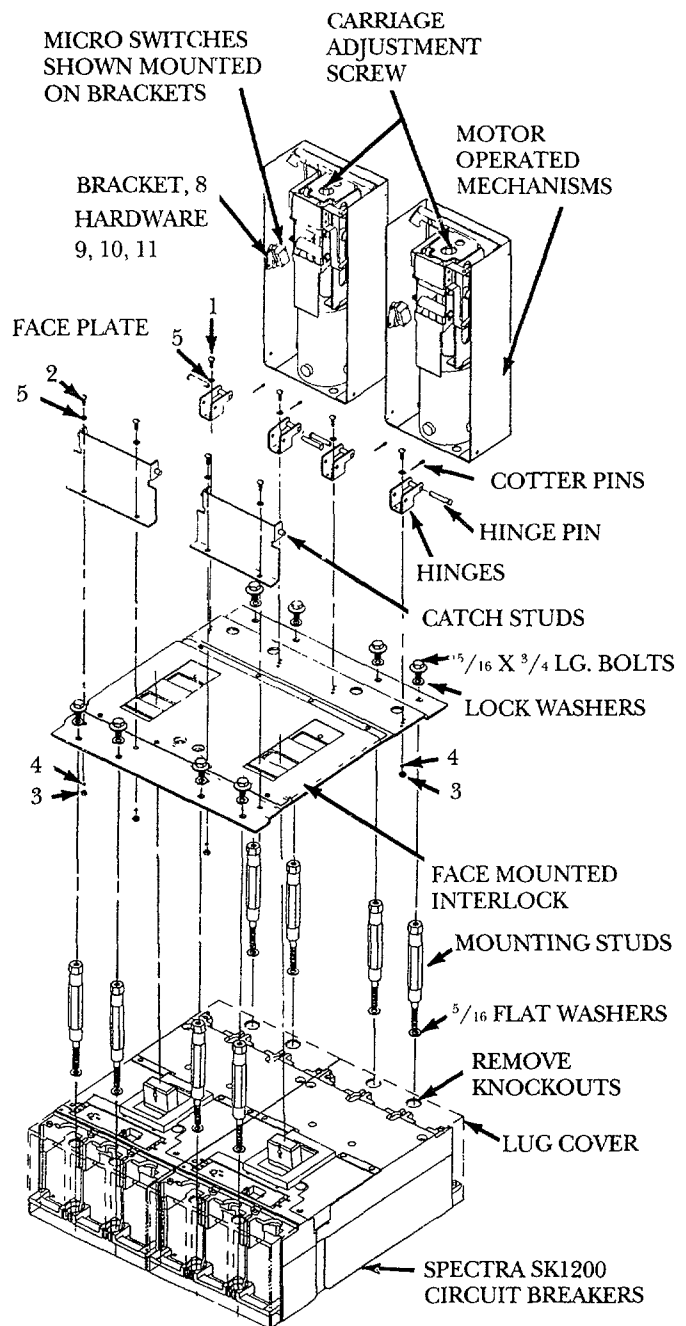

Figure 2.
3. Secure both SK1200 circuit breakers on panel face using 8 mounting studs and flatwashers  $\frac{5}{16}$ . Tighten studs at least 35 lb.-in. min. See Fig. 2.